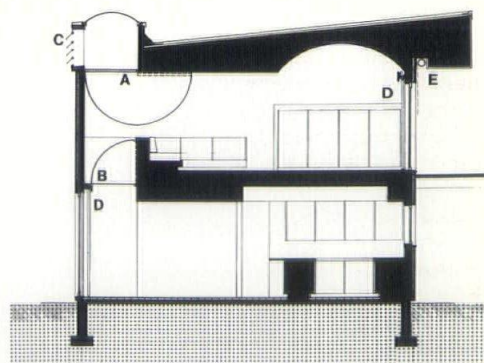

Figure 13
Sun Monitor. Figure 13 shows the cross-section of a house alteration and is an example of a rehabilitation design for energy conservation (12). Its principal feature is a "sun monitor" which combines a long four-foot by twenty-foot skylight to admit winter sun with a belvedere for controlling ventilation. The house is otherwise surrounded by a forest which will shade the summer sun. During winter days, an insulating panel (A) is open, then closed at night. A plexiglas panel (B) controls air flow between floors, overcoming the disadvantage of the types of vertical spaces that have been present in modern architecture since Le Corbusier. For summer cooling, both panels are opened and air is vented through the monitor (C). In situations where adjacent trees could not shield the summer sun, then an additional shade on the outside of the skylight may be called for. The section also illustrates that the summer sun is kept off the windows by an overhang, which has an additional provision of a roll-up shade on the outside (E). All of the large glass areas have interior insulating shutters (D).